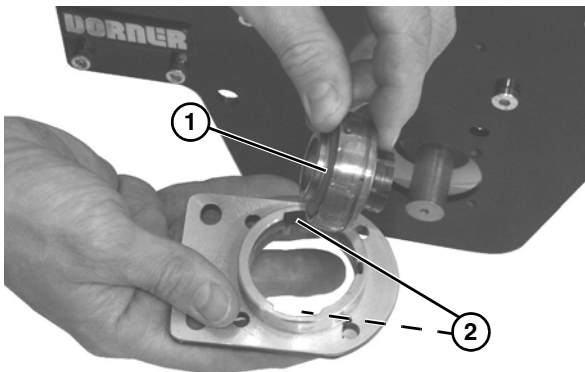

Figure 47
1. Turn bearing (Figure 47, item 1) to align with slots (Figure 47, item 2) in bearing housing. Then remove bearing.